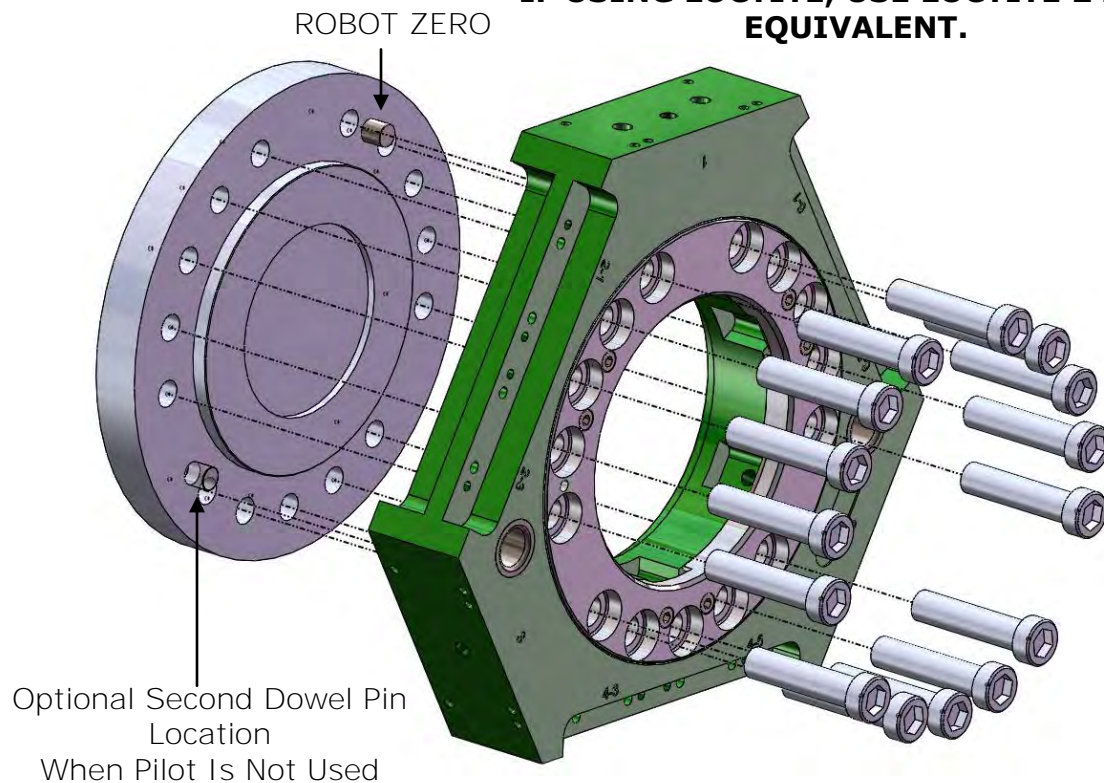

Figure 5.2-2. ES200 Tool Adaptor Installation (Bolt Top Down)
1. Locate the Tool Adaptor to the tool plate utilizing either the locating hub and one (1) M12 locating dowel, or two (2) M12 locating dowels (Figure 5.2-2).